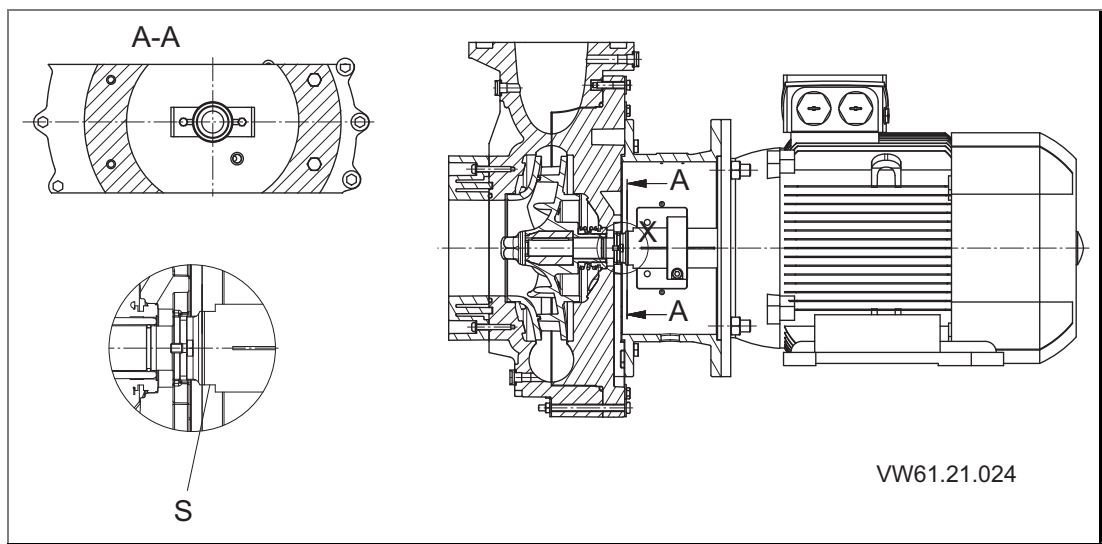

Fig. 8
1. Loosen the coupling protection (681) from the drive lantern (341).
2. Hold the pump shaft (210) at the opening. See "Fig. 8" on page 46.
3. Loosen the impeller nut (922) with the inserted o-ring (412.4).
4. Remove the impeller (230). Place the impeller on a clean and level surface.
5. Remove the shaft key (940) from the shaft key nut.
6. Remove the rotating insert in the mechanical seal (433) from the impeller hub.
7. Loosen hexagon screws (901).
8. Loosen the gland housing (161) from the lantern (341).
9. Remove the counter ring in the mechanical seal (433) from the gland housing (161).
1. Insert shaft key (940) into shaft key nut.
2. Push the impeller (230) onto the shaft (210).
3. Hold the pump shaft at the opening. See "Fig. 8" on page 46.
4. Fasten the impeller nut (922), with the inserted O-ring (412.4). Observe the torque! See chapter 8.6 on page 47.
4. Pull both lockwashers (931) completely out of the shaft nut. See "Fig. 8" on page 46.